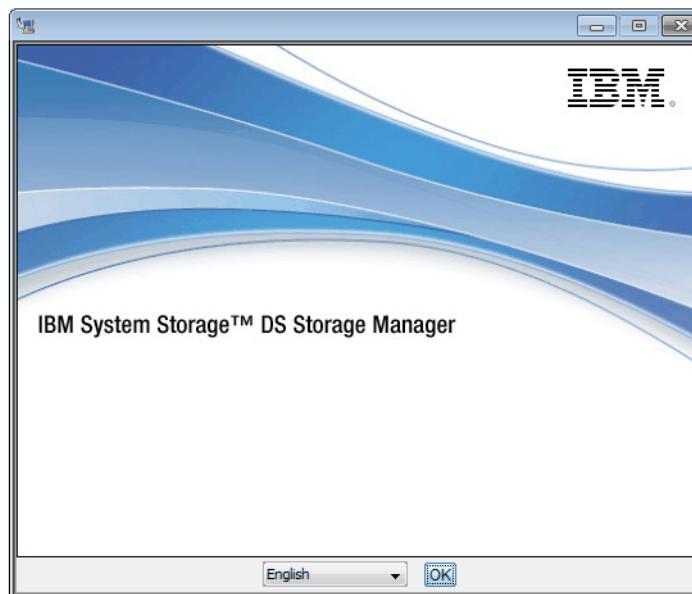

Figure 2-1 IBM System Storage DS Storage Manager splash panel
1. Figure 2-1 shows the first panel after the installer is launched.